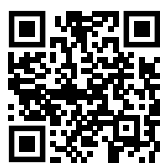

Fig. 83
- Open Liebherr SmartMonitoring Dashboard. (see Fig. 83)